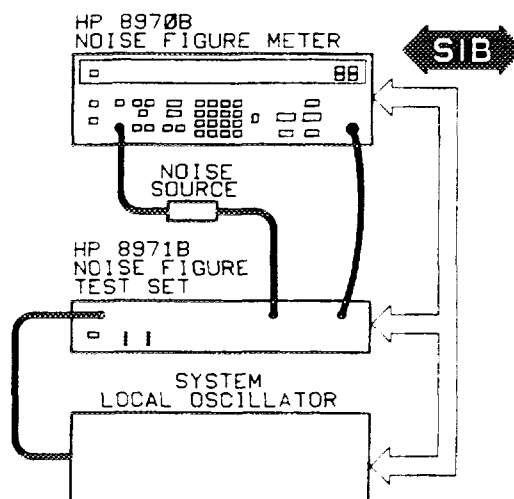

Figure 4-15. Noise Figure and Gain Test Setup SSB2/SSB3
1. Set up instruments as shown in Figure 4-15.
14. Connect system as shown in Figure 4-15.